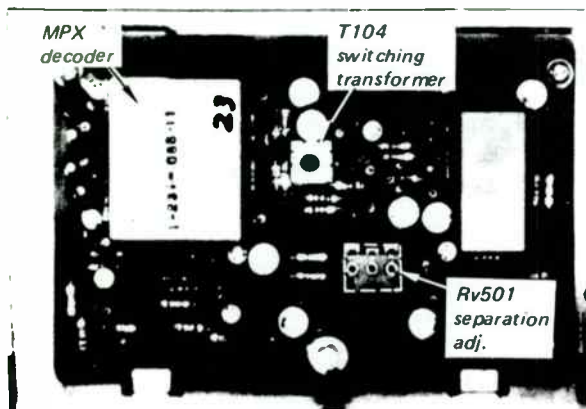

Fig. 3-9 Parts location
- Precisely tune the set to the SSG's carrier frequency, then turn the top core of switching transformer T104, to obtain maximum output at the left channel. See Fig. 3-9. Note that this adjustment has a close relationship with stereo distortion.
- The output-level to residual-level ratio represents the separation. Adjust separation control Rv501 (see Fig. 3-9) for minimum residual level. Check the right channel for separation. Usually, about an 8 to 9 dB difference in channel separation exists. Readjust Rv501 for minimum difference between left-and right-channel separation. While doing this, remember that the output level also changes according to the setting of Rv501.